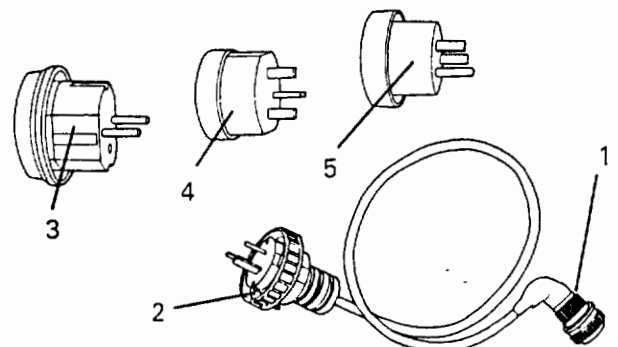

Figure 3-1 — 230 Volt Mains Power Cable
304. Connect the angled socket (1) to the power inlet on the blood refrigerator and the three pin plug (2) to the power supply outlet. Where the European (3), UK (4) or USA (5) power sockets are fitted used the appropriate adapter plug (Fig 3-1).